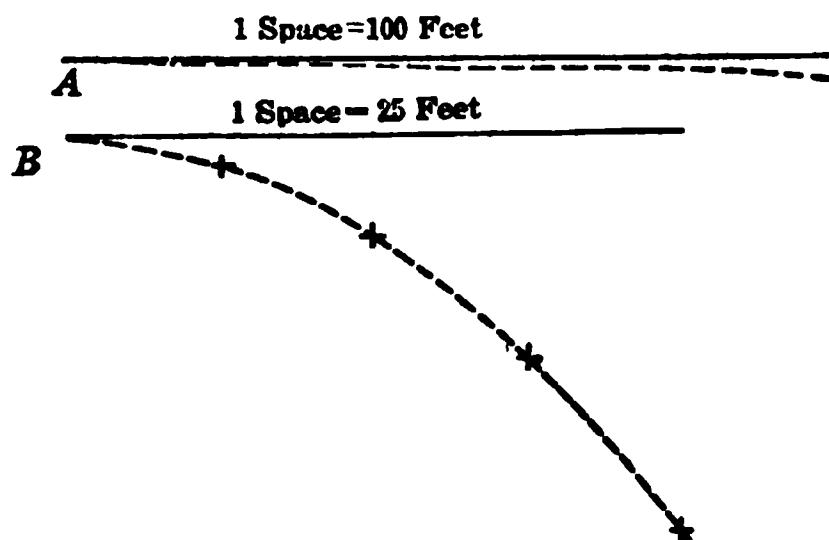
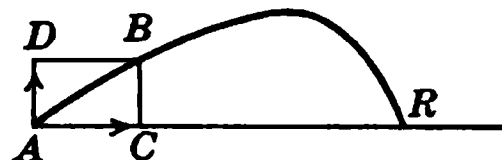

FIG. 117. — A. Curve of high velocity projectile. B. Curve of low velocity projectile.
FIG. 118. — Path of projectile, fired at an angle.
16.08 ft., and the bullet would strike 16.08 ft. below the point at which it was aimed. In 2 seconds the bullet travels 6000 ft., but it drops in the same interval 64.32 ft. See Fig. 117 A. Of course, the greater the velocity, the more nearly the curve approaches a
straight line. The curve of Fig. 117 B shows the path of a ball thrown with a horizontal velocity of 100 ft. per second.
the path of the bullet is so nearly horizontal that no correction need be made for *short* distances. When the object is more remote, the rear sight of the rifle is raised a trifle. When the rifle is then aimed at an object, the end of the barrel is raised slightly. The farther away the object, the more the rear sight is elevated before taking aim. The muzzle of a field gun is always elevated so that the projectile is fired at an angle. Fig. 118 shows the path such a projectile may take. The angle BAC is the *angle of elevation*. AC and AD are the component horizontal and vertical velocities, and AR is the *range*. The path ABR is called the *trajectory*. The higher the velocity of the projectile, the flatter the trajectory, Fig. 117. Under actual conditions, air resistance reduces the range, and corrections must be made for windage.